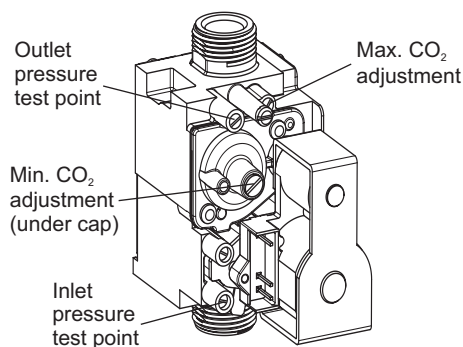

Fig. 5.2
2. Loosen the gas inlet pressure test point screw on the gas valve (see Fig. 5.2) and purge in accordance with BS 6891.
## 5.6 CHECK THE BURNER PRESSURES AND COMBUSTION - Figs. 5.2 and 5.3